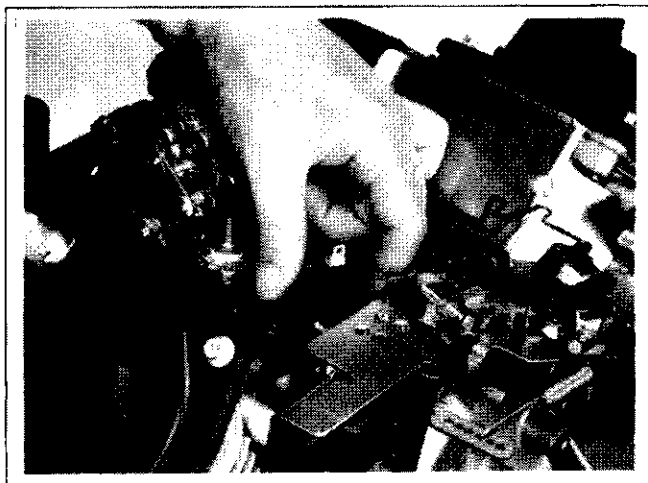

Figure 9-22. Removing Oil Sentry™ Switch from Breather Cover.
2. Remove the Oil Sentry™ Switch from the breather cover Figure 9-22.